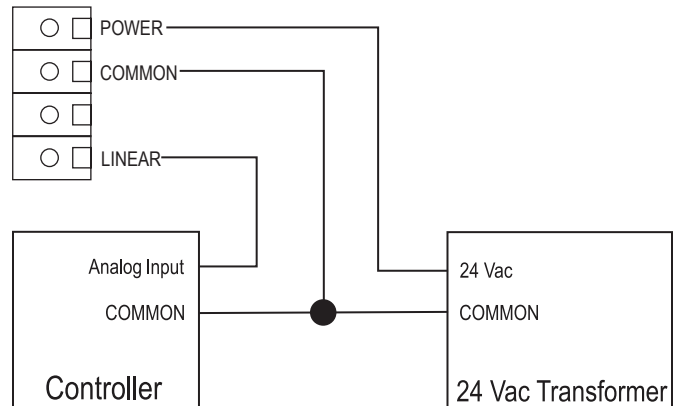

Fig. 6. Wiring
- Connect the positive DC voltage or the hot side of the AC voltage to the terminal marked POWER. The power supply common is connected to the terminal marked COMMON as shown in Figure 6.
Connect the LINEAR output signal to a 0-5 or 0-10 Vdc analog input port on the controller as shown in Figure 6. The device is factory configured for 0-5 Vdc output signal but may be changed to 0-10 Vdc via the menu. Changing output signal may be done during set up of the device. This linear output signal represents to 0-2000 ppm CO₂-equivalent value.